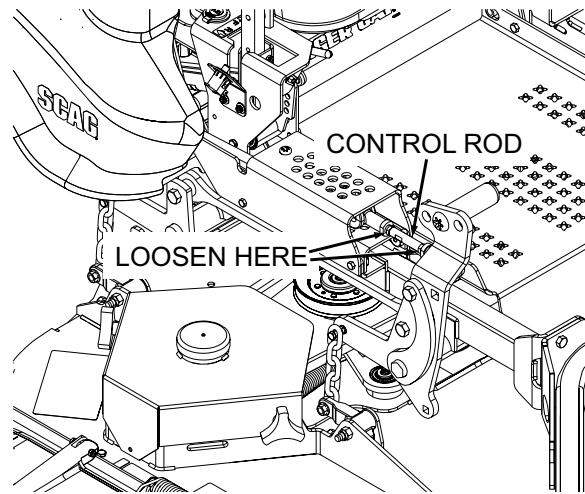

Figure 6-8. Cutter Deck Height Adjustment
4. Turn the control rod (See Figure 6-8) until the measurement from the floor to the cutter blade tip is at 4-1/2". Tighten the jam nuts on the control rod.
3. Loosen the jam nuts on both ends of the deck height control rod. See Figure 6-8.